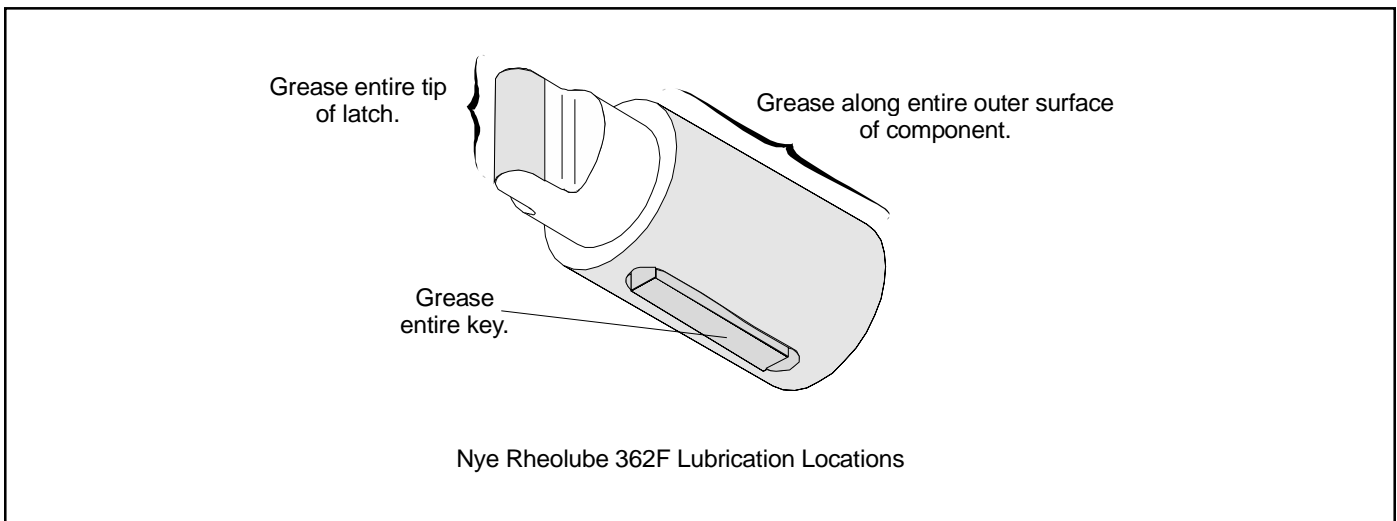

Figure 2 - 30 Type CDW Brake Valve Quadrant Latch
•On the new latch, Pc. No. 593617, apply a coating of Nye Rheolube 362F to the latch surface (see figure 2) that contacts the Suppression Cam and to the outer diameter of the latch and key that are in contact with the cam housing bushing.